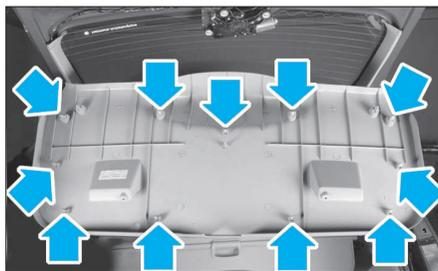

FIG. 72
- la garniture de hayon (Fig.72) (11 clips).